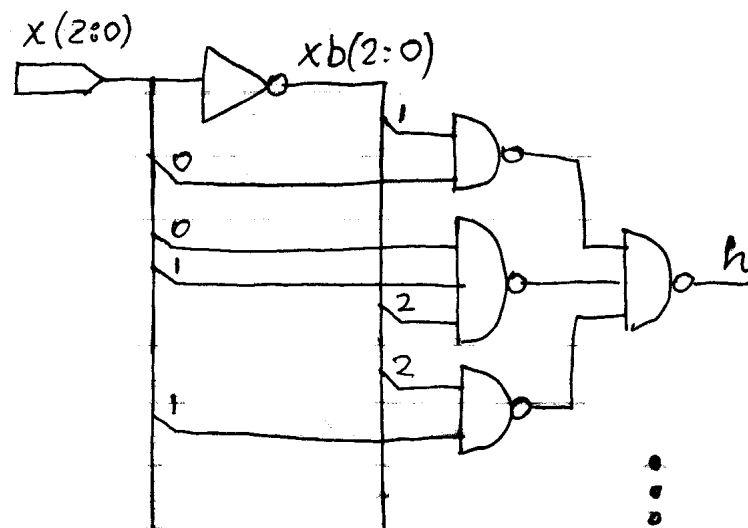

Figure 3: 7-segment display representation of decimal digits
- Try to arrange your design in a way similar to that in Figure 3.